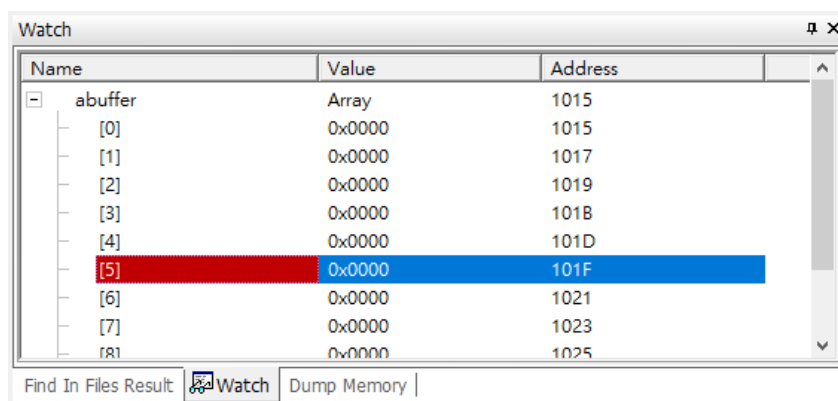

Figure 4.7 Observation variables
**Watch window**– The Watch window can observe various variables, including user-defined variables, special register variables, program labels, etc. If you use a high-level language such as C language, you can also observe complex data such as arrays and structures Structure, see Figure 4.7.